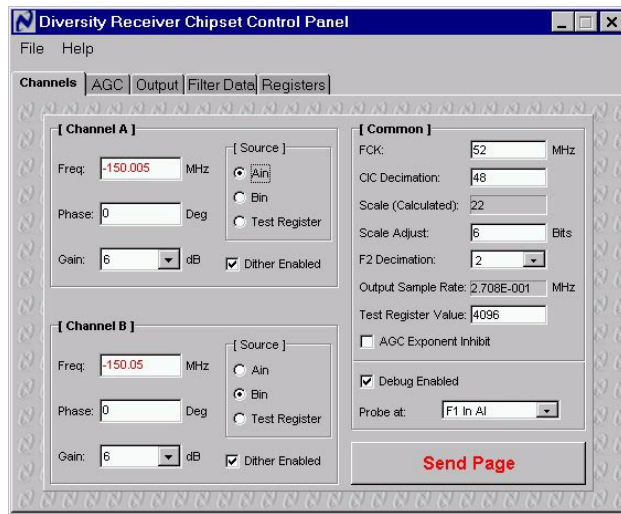

Figure 34 DRCS Channel Configuration, CIC Rollover
- On the **Channels** page, enter -150.005 (5kHz offset) for **Freq** within the **Channel A** box and enter 6 for **Scale Adjust** within the **Common** box. Also check **Debug Enabled**, select **F1 In AI** from the **Probe at** pulldown menu, and set **Channel Gains** to 0. The screen should look like Figure 34. Click on the **Send Page** button.